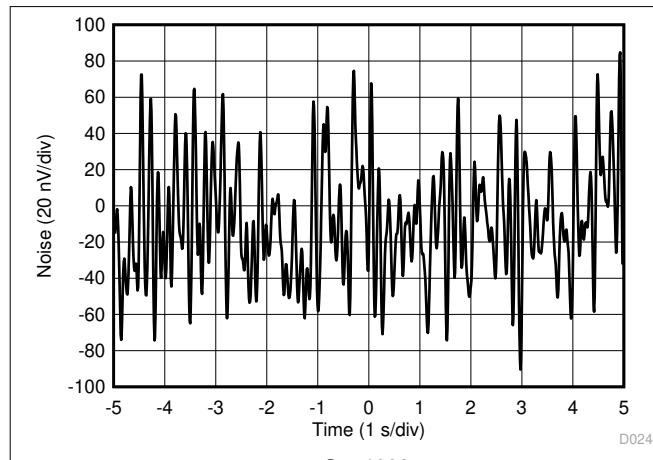

Figure 7-25. 0.1-Hz to 10-Hz RTI Voltage Noise
0.1-Hz to 10-Hz RTI Voltage Noise, $G = 1000$	<a href="#">Figure 7-25</a>